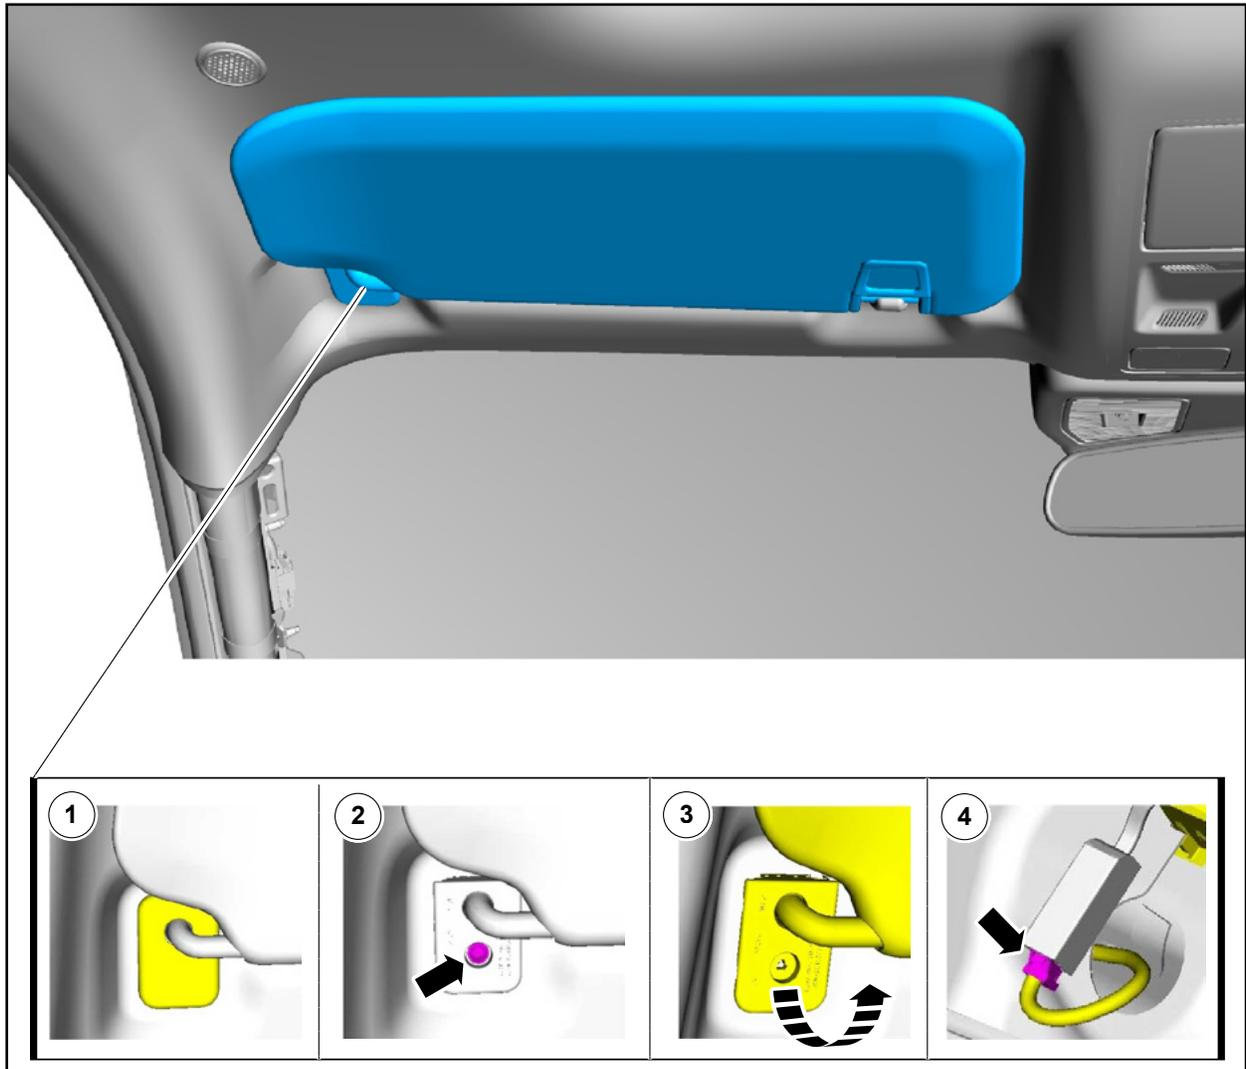

FIGURE 28
28. Remove the LH sun visor. See Figure 28.